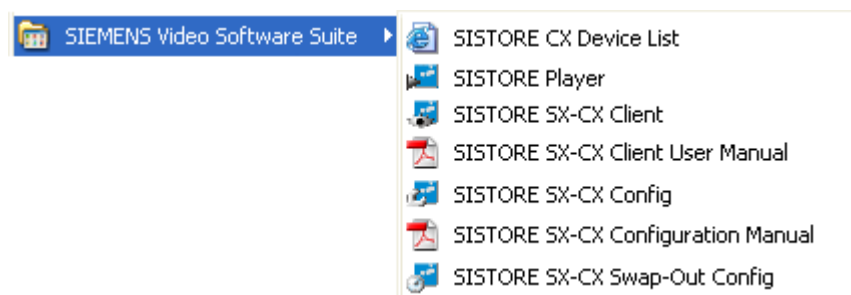

Fig. 11 SISTORE CX start menu
1. Select **Start > Programs > SIEMENS Video Software Suite > SISTORE CX Configuration Manual** in the Windows start menu (see Fig. 11)